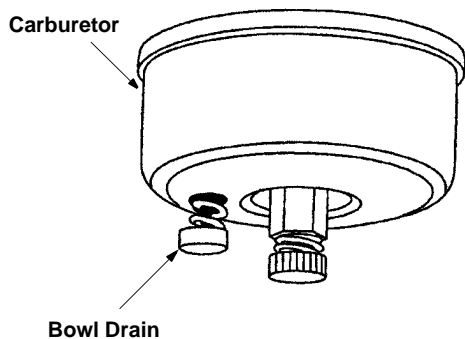

Figure 34
- Drain carburetor by pressing upward on bowl drain, located below the carburetor cover. See Figure 34.